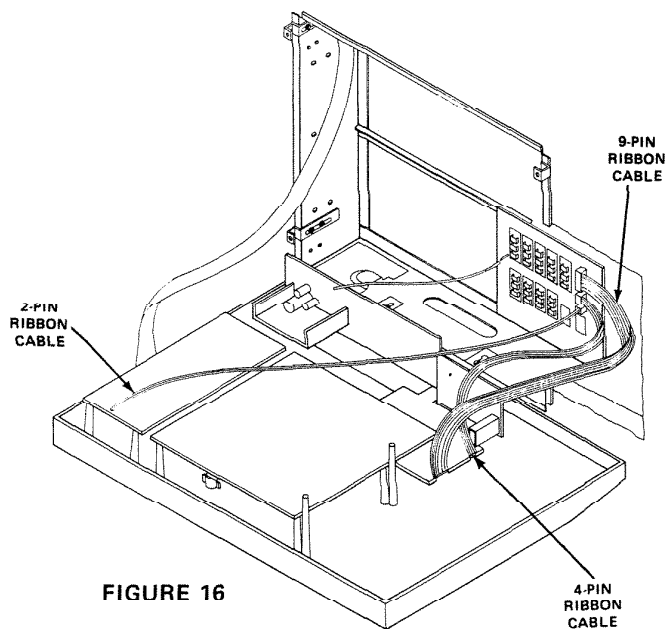

FIGURE 16
1. Connect the 4-pin ribbon cable from the master panel to the 4-pin connector on the terminal board. See Figure 16.
2. Connect the 9-pin ribbon cable from the master panel to the 9-pin connector on the terminal board. See Figure 16.
3. Connect the 2-pin ribbon cable from the master panel to the 2-pin connector on the terminal board. See Figure 16.